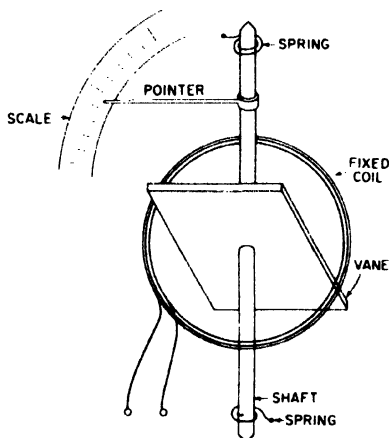

Fig. 31-24. Diagram of the inclined-coil a-c meter.
**The Inclined-Coil Meter.** Another type of alternating-current meter is the *inclined-coil* meter (Fig. 31-24). Here, a fixed coil is set at an angle to a shaft upon which is mounted a soft-iron vane set at right angles to the coil. As current flows through the coil, the vane attempts to turn to a position where it will line up with the magnetic lines of force around the coil. As the vane rotates, it turns the shaft, which in turn moves the pointer. The rotation of the vane is opposed by the two springs shown. Since the force of